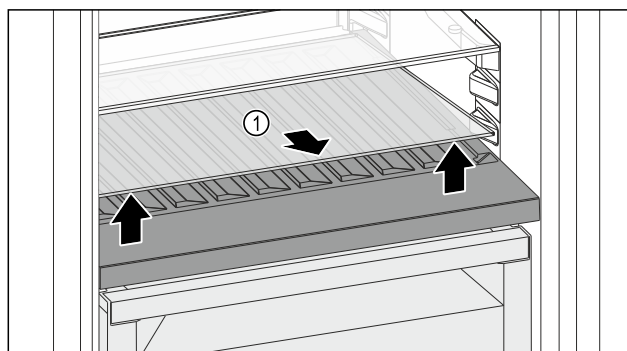

Fig. 122
- Lift the glass shelf Fig. 122 (1) at the front and remove.
- Store the glass shelf Fig. 122 (1) in a safe place outside the appliance.
- Insert the glass shelf (2) under the variable bottle rack.